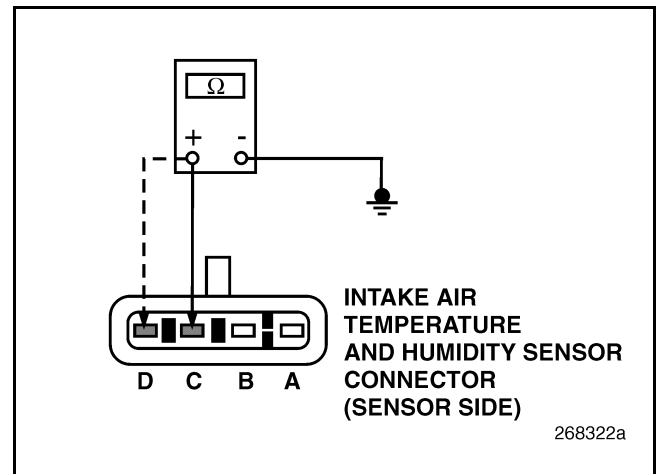

Figure 306
3. Check for continuity between pin C of the IATH Sensor and a good ground (see Figure 306).
Check for continuity between pin D of the IATH Sensor and a good ground (see Figure 306).